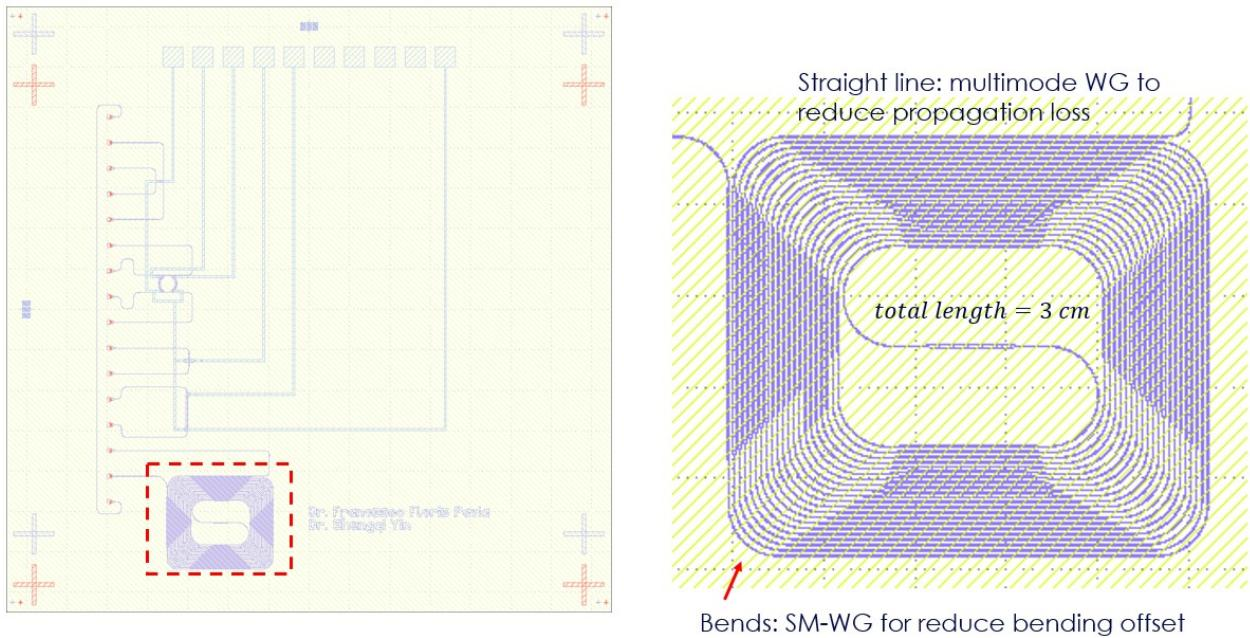

Figure 7. Spiral waveguides
As shown in Fig. 7, the straight part of the waveguides are multi-mode (MM) waveguides, with a width of $2.5 \mu\text{m}$, whilst the waveguide bend has to be single-mode (SM) to avoid mode crosstalk in the bend. They are connected using a waveguide tapers. From one grating coupler to the other, the delay line has a total waveguide length of 3 cm and can be used for measuring the propagation loss using the cutback method.